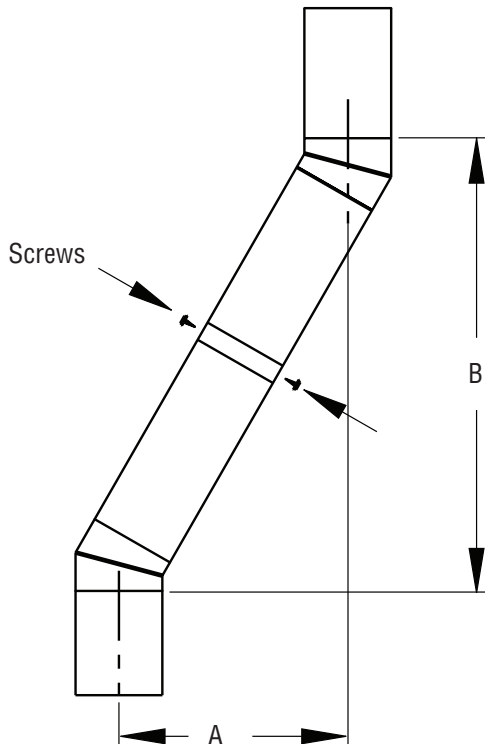

Figure 12 - Elbow Offset
Continue to assemble chimney sections as outlined above, making sure that both the inner and outer pipe sections are locked together. When installing double wall snap-lock chimney together, it is important to assure the joint between the chimney sections is locked. Check by pulling chimney upward after locking. The chimney will not come apart if properly locked. It is not necessary to add screws to keep the chimney together (exception, see Figure 12, page 11).
1. To achieve desired offset, you may install combinations of 12", 18", 24", 36" and 48" length of double wall pipe (see offset chart and Figure 12).
4. All pipe connections between the offset and return must be secured with two screws on the outer pipe only (see Figure 12). Do not penetrate the inner stainless.